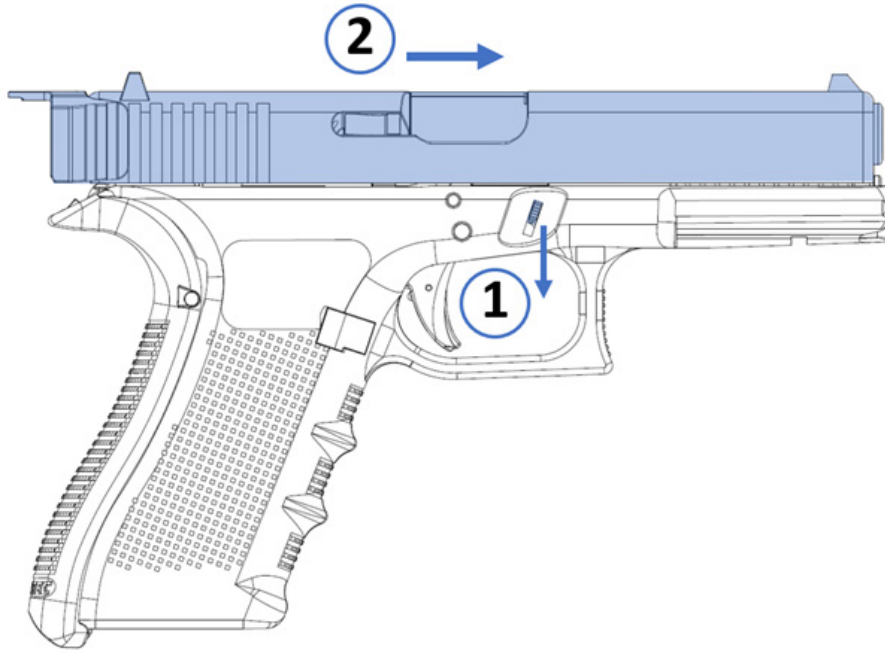

Figure 108: Slide disassembly, steps and direction.
4. Press both sides of the Slide Lock downward while the Slide is slightly retracted. At that point, push the Slide assembly forward and remove it from the Frame (Figure 108).